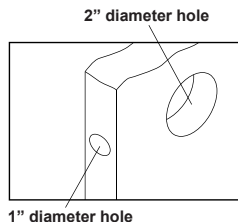

Fig. 13
Step 2. Bore a 54mm (about 2" or 2 1/8") hole on door face, then drill a 25mm (about 1") hole into the edge of the door so that it intersects with the larger hole (Fig. 13).
- (N)** • When drilling the 54mm (about 2" or 2 1/8") hole, it's recommended to drill from both sides of door to stop the wood from splintering.